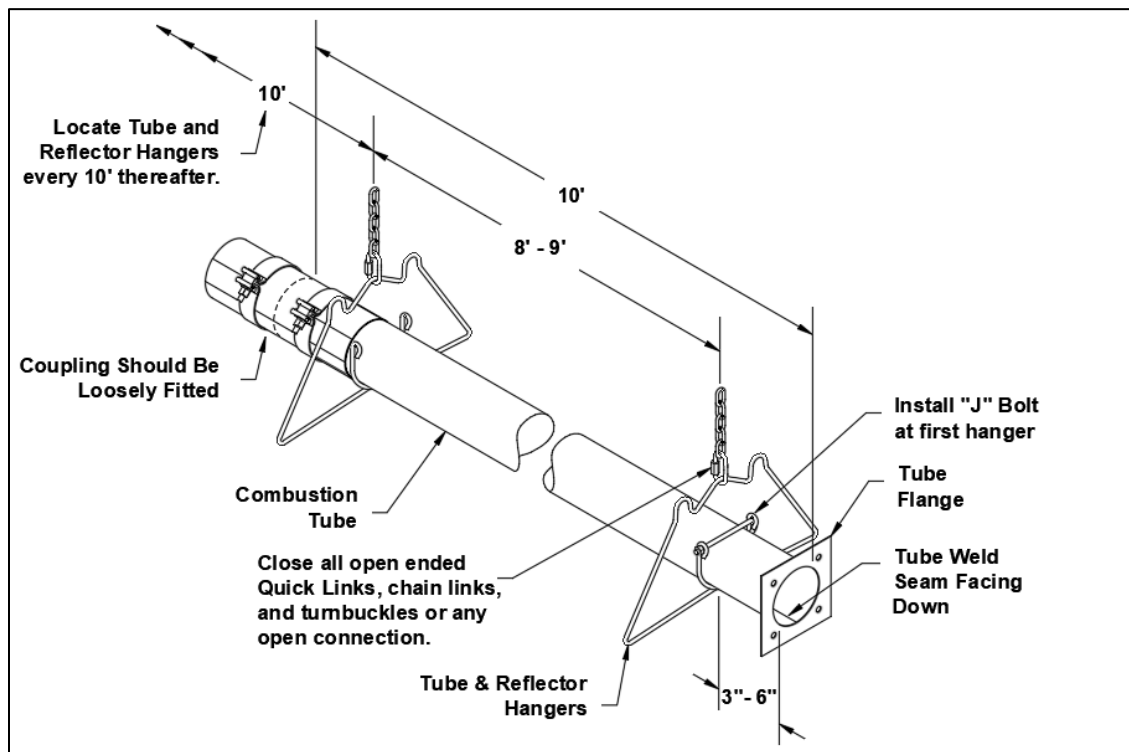

Figure 8: Installation of First Section of Flanged Tube
- Place the first (flanged, aluminized) tube in the first two hangers (Figure 8). Be sure the flange is toward the intended burner location. The other end of the tube should have the first coupling already loosely fitted.
- Always use all the hangers supplied. As a rule the combustion tube (first tube) utilizes 2 hangers and thereafter 1 hanger per 10' section. It is required that the first hanging point be 3" to 6" from the burner mounting flange, and tube weld seam must face down, refer to Figure 8 for more details.